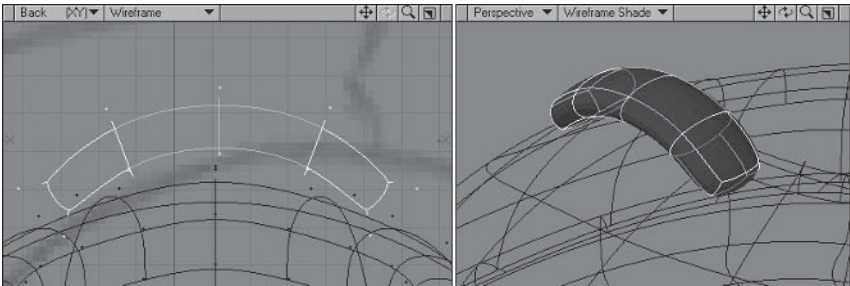

Figure 5.5-12. Shaping the shoe lace.
20. **SubPatch**, then **Rotate** each end of the box to match Figure 5.5-12.